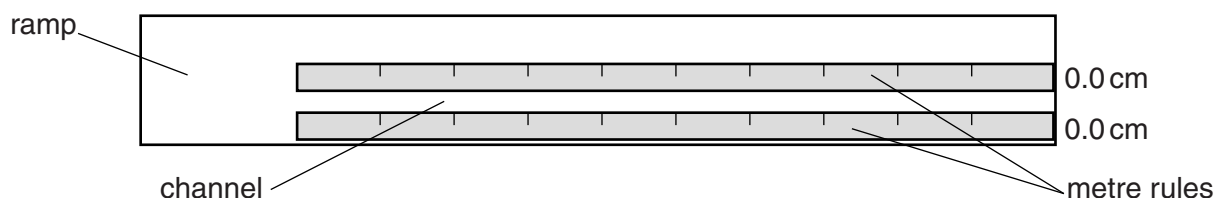

Fig. 4.1 (top view)
3. The metre rules should be placed along the ramp. They should be parallel to the edge of the ramp with a gap between them. The gap is to form a channel down which the tennis ball will roll. The 0.0 cm ends of the rules should both be at the edge of the bottom of the ramp. Blu-Tack should be used beneath the rules to secure them in this position. The rule nearest the candidate should be secured at the edge of the ramp as shown in Fig. 4.1.